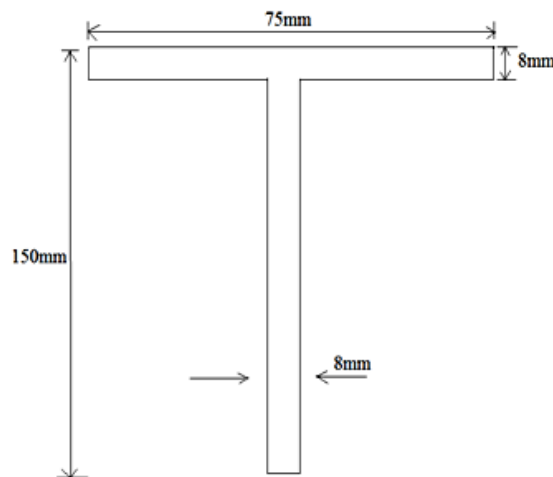

Figure: 3
7. A T-section beam shown in figure 3 is subjected to a shear force of 9kN at a section. Determine the amount of maximum intensity of shear stress and draw the distribution of shear stress across depth of the section.